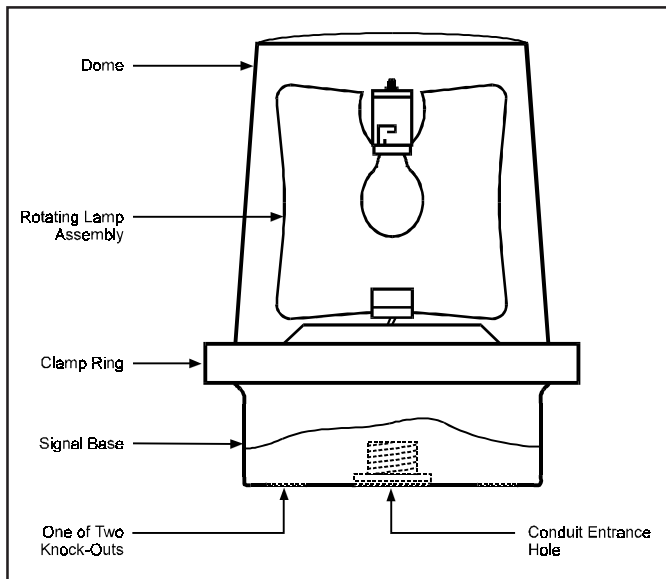

Figure 1. Catalog Series 53 Rotating Light
- See Figure 1. Remove the screw in the clamp ring, remove the ring and lift off the dome.
- Remove the two knock-outs for the mounting screws from the bottom of the base. See Figure 1 for the location of knock-outs.